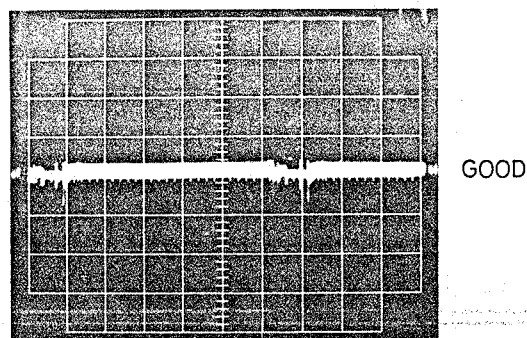

Fig. 4-18 Dark Offset Adjustment
4. Adjust AGC OFFSET control (RT1101) so that the bottom edge at waveform matches the blanking level. (See Fig. 4-18)